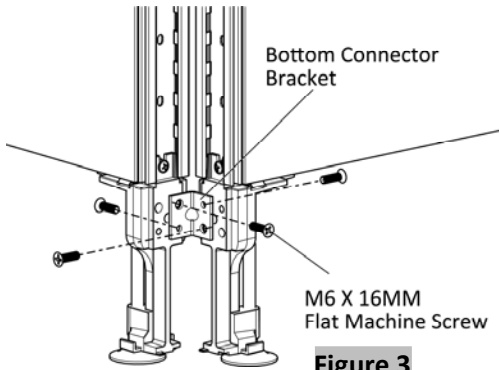

Figure 3
- 5. Securely fasten bottom corner bracket into the panel legs with four M6 X 16MM Flat Machine Screws, (Figure 3).